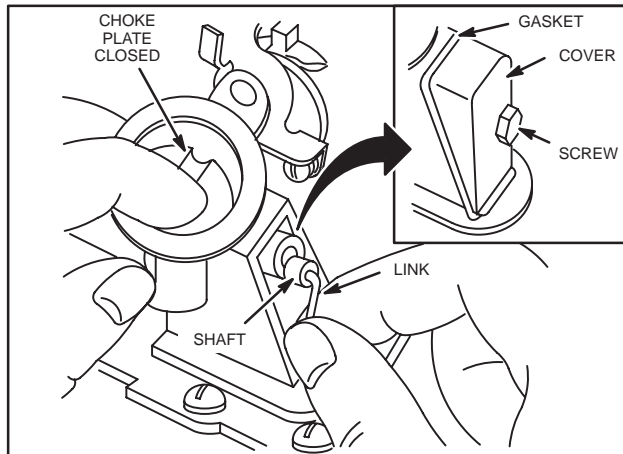

Fig. 165 – INSERTING CHOKE LINK
6. Close choke plate. Insert choke link into choke shaft as shown, Fig. 165.
3. Move choke plate to normal closed position. Choke plate should now remain fully closed, Fig. 165.